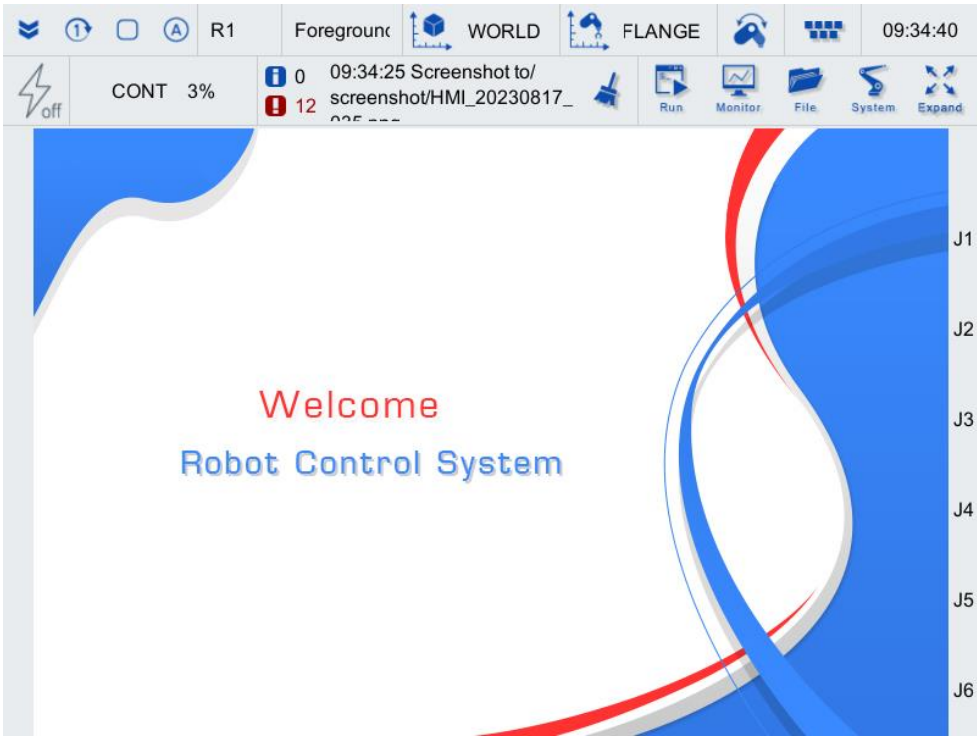

Figure 5-22 Teach pendant main interface
Step1. Log in to the teach pendant and you will see the main interface of the teach pendant as shown in Figure 5-22.